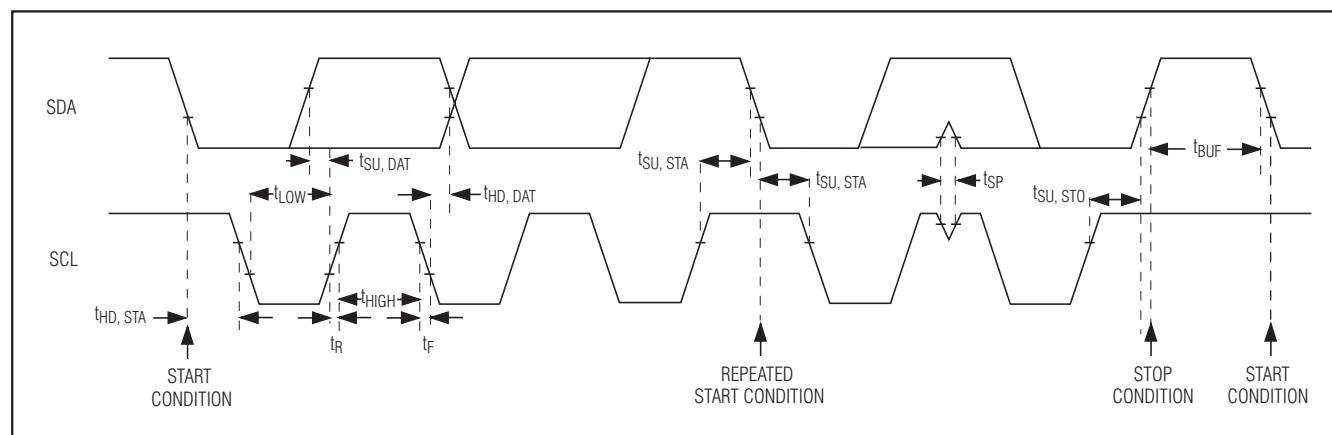

Figure 6. I2C Serial-Interface Timing Diagram
The MAX9598 features an I2C/SMBus™-compatible, 2-wire serial interface consisting of a serial data line (SDA) and a serial clock line (SCL). SDA and SCL facilitate communication between the MAX9598 and the master at clock rates up to 400kHz. Figure 6 shows the 2-wire interface timing diagram. The master generates SCL and initiates data transfer on the bus. A master device writes data to the MAX9598 by transmitting a START (S) condition, the proper slave address with the R/W bit set to 0, followed by the register address and then the data word. Each transmit sequence is framed by a START (S) and a STOP (P) condition. Each word transmitted to the MAX9598 is 8 bits long and is followed by an acknowl-